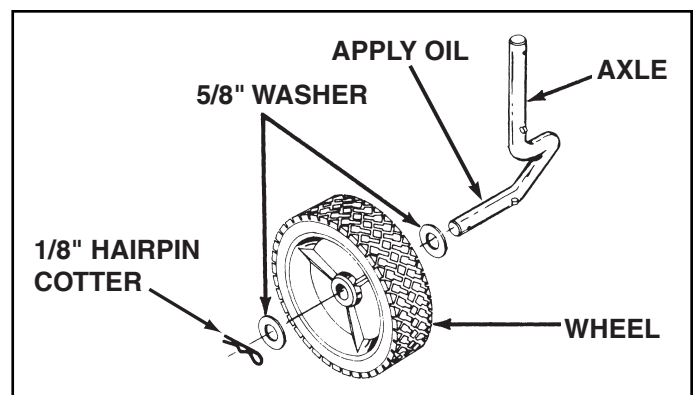

FIGURE 4
6. Assemble a 5/8" washer, the wheel (long end of hub first) and another 5/8" washer onto axle. Secure with a 1/8" hairpin cotter. See figure 4.